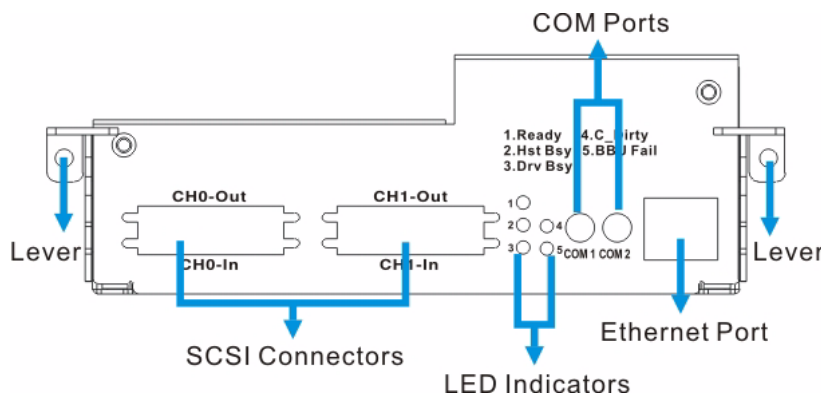

Fig. 2.9 Controller Module Interfaces
The heart of the RAID controller subsystem is the 320MB per second SCSI-to-SATA controller board. The controller comes with two (2) pre-set SCSI-320 host channels, CH0 and CH1. The subsystem connects to the host through a VHDCI SCSI input connector, while the output connector is ready to connect external devices. (See *Figure 2.9*)
All external interfaces that connect to external devices are located on the controller module rear panel shown in *Figure 2.9*. The interfaces are listed below.
- **Host Ports:** Two (2) SCSI-320 host channels (CH0 and CH1 in *Figure 2.9*) connect the subsystem to the host through two (2) dual-stacked VHDCI SCSI connectors.
- **COM ports:** The controller module comes with two (2) COM ports. One port is used to access the controller-embedded configuration utility through the network, and the other connects to a UPS connection. .
- **Levers:** Two (2) levers located in the sides of the controller board rear panel provide easy controller module installation and secure the controller module in place.